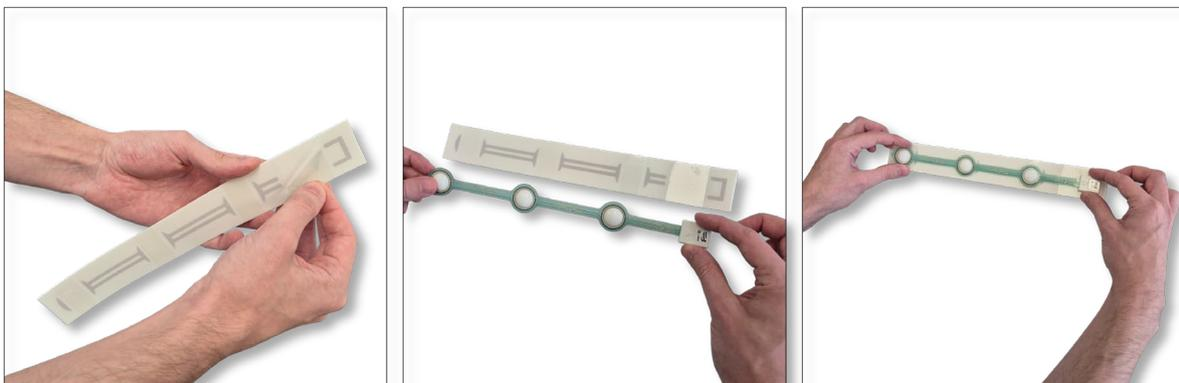

Figure 3. Placing the Sensor Device onto the Adhesive Strip.
- On the face of the Adhesive Strip showing outlines, remove each of the four liners covering the adhesive regions and place the Sensor Device on the Adhesive Strip, ensuring the connector region of the Sensor Device aligns with the square outline on the Adhesive Strip (Figure 3). Ensure that the raised force concentrators on the Sensor Device are facing away from the Adhesive Strip.